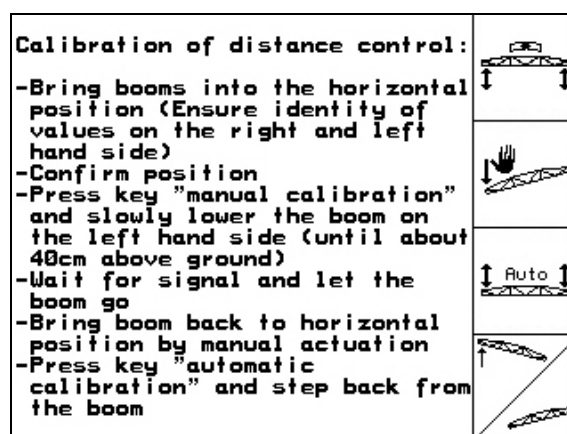

Fig. 30
- Via the function icon  (Fig. 30) start the automatic calibration.